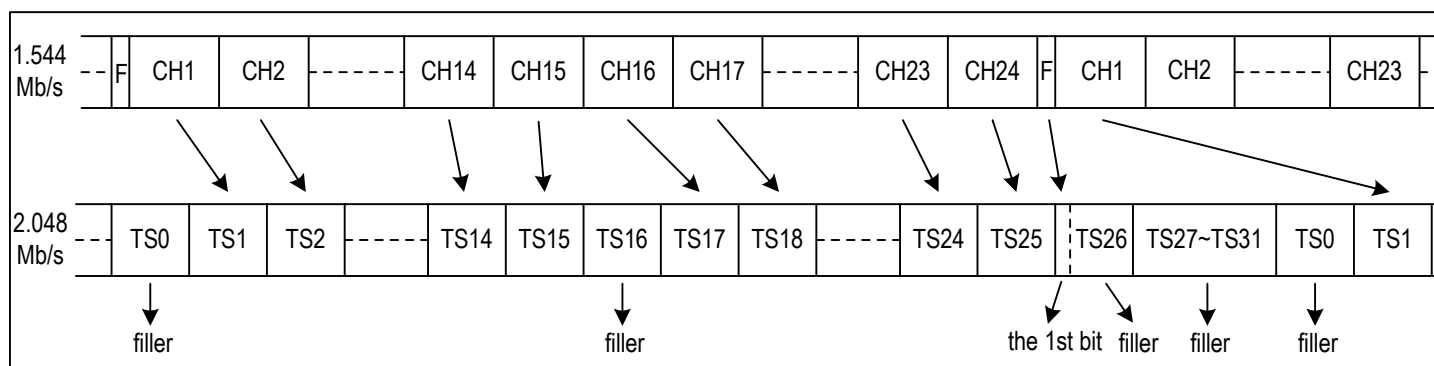

Figure 17. T1/J1 To E1 Format Mapping - G.802 Mode
1. T1/J1 Mode E1 Rate per G.802 (refer to Figure 17): Channel 1 to Channel 15 of Frame N from the device are converted into TS1 to TS15 of Frame N on the system side; Channel 16 to Channel 24 of Frame N from the device are converted into TS17 to TS25 of Frame N on the system side. The F-bit of Frame N from the device is converted into the first bit of TS26 of Frame (N-1) on the system side. TS0, TS16, TS27~TS31